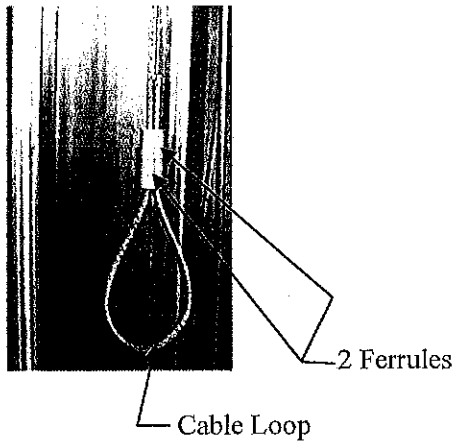

Figure 24
With the cable properly routed into the counterweight guide channel, have person #1 slide two (2) ferrules onto the cable then make a loop with the cable, and route the cable back through the two (2) ferrules (**Figure 24**).